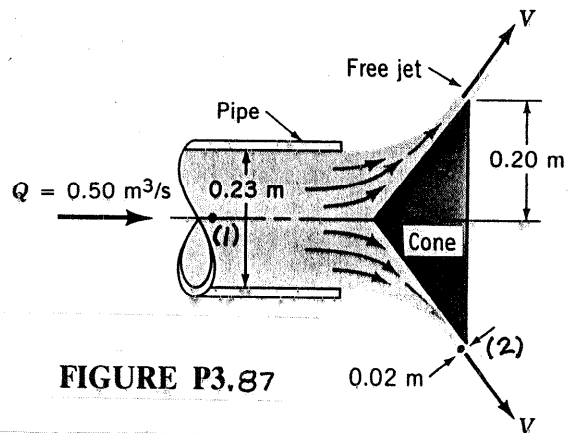

FIGURE P3.87
3.87 A conical plug is used to regulate the air flow from the pipe shown in Fig. P3.87. The air leaves the edge of the cone with a uniform thickness of 0.02 m. If viscous effects are negligible and the flowrate is $0.50 \text{ m}^3/\text{s}$, determine the pressure within the pipe.